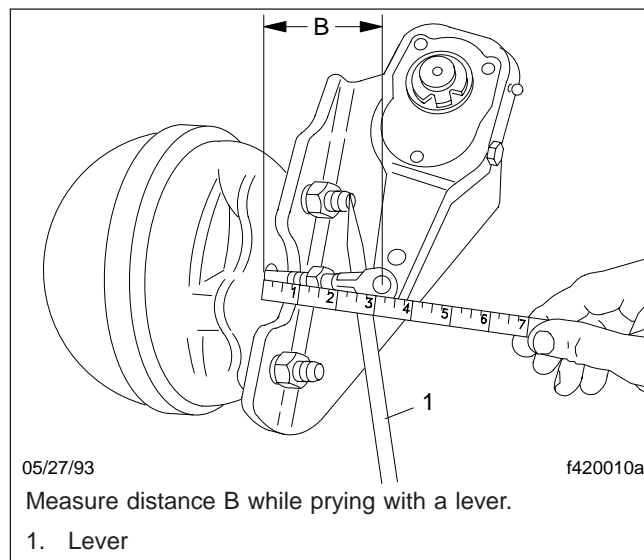

Fig. 2
- 2.2 Using a lever as shown in **Fig. 2**, move the slack adjuster piston rod until the brake shoes contact the drum. Measure the distance from the face of the brake chamber to the centerline of the clevis pin (**Fig. 2**, Ref. B). Record the exact distance as measurement B.